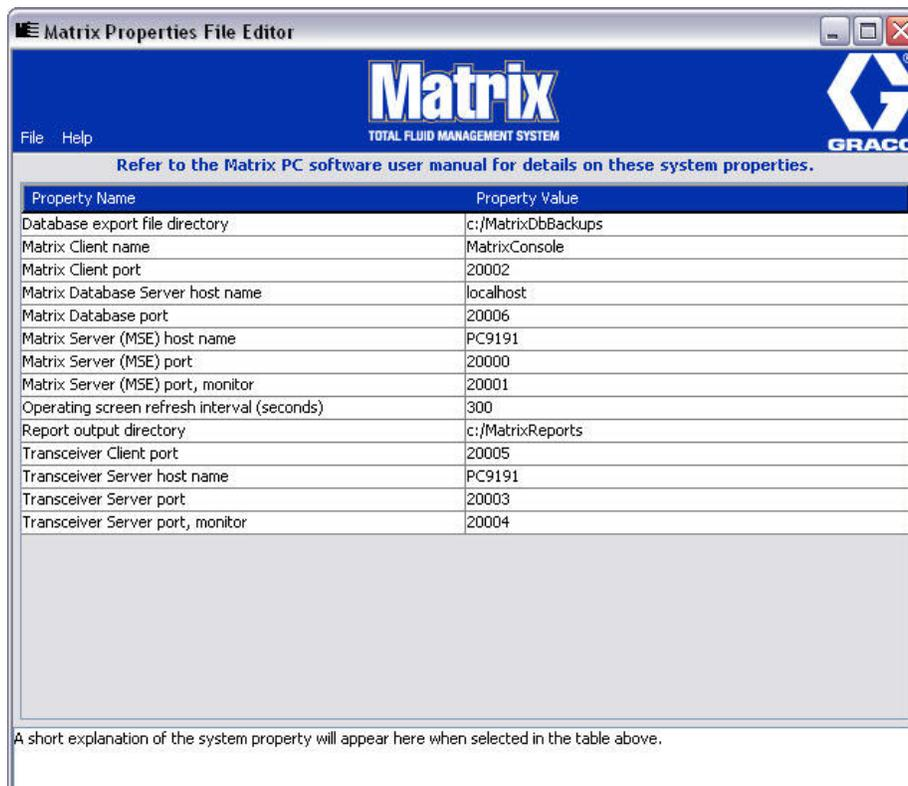

FIG. 12
2. The editor appears as a two-column list of system properties, with property names on the left and their editable values on the right (FIG. 12). When you select a property by clicking on it, the bottom panel of the screen shows basic information about that property.